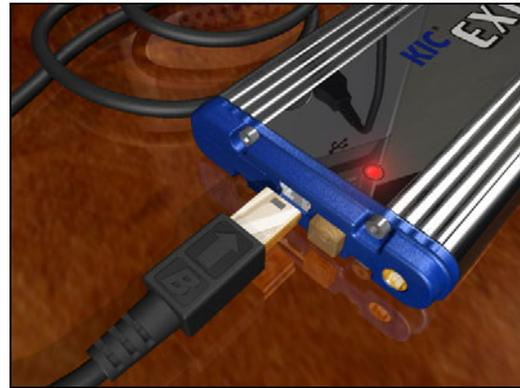

Figure 185
**Power On** – Press/hold the Amber colored On/Off button for 1 second (located at the back of the *KIC Explorer*). When power is on, the LED indicators will power on. The LED color/pattern will represent the current *KIC Explorer* hardware state/status. See Figure 185.
**Power Off** – Press/hold the Amber colored On/Off button for 1 second (located at the back of the *KIC Explorer*). See Figure 185. When the power is turned off, the LED indicators will be off.
The *KIC Explorer* has 2 LED indicators, 1-Red and 1-Green, and can be viewed by looking at the top of the *KIC Explorer* near the On/Off button. See Figure 185. The *KIC Explorer* LED indicators will indicate the current state/status of the *KIC Explorer*. See Table 7.